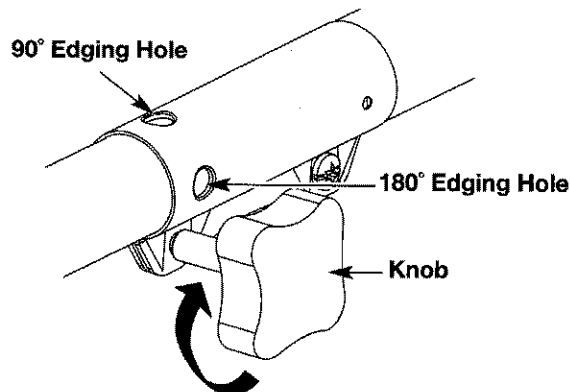

Fig. 12
3. Turn the knob clockwise to tighten (Fig. 12).